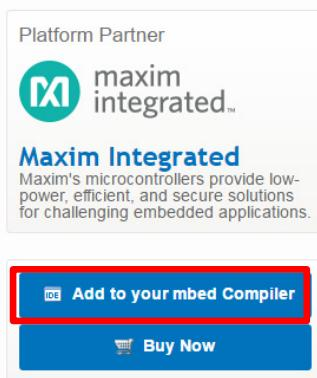

Figure 2. *Add to your mbed Compiler* button.
| Figure 2. Add to your mbed Compiler button..... | 4 |
1. Add the MAX32600MBED platform to your compiler by clicking the **Add to your mbed Compiler** button at the top right side of the MAX32600MBED platform page (**Figure 2**).